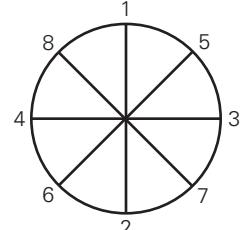

Figure 11: Star Pattern
- When using this method, follow a star pattern (*as shown in Figure 11*) to avoid “cocking” of the seal.
- Place the ends of the wooden block at positions 1 and 2 (*as shown in Figure 11*).